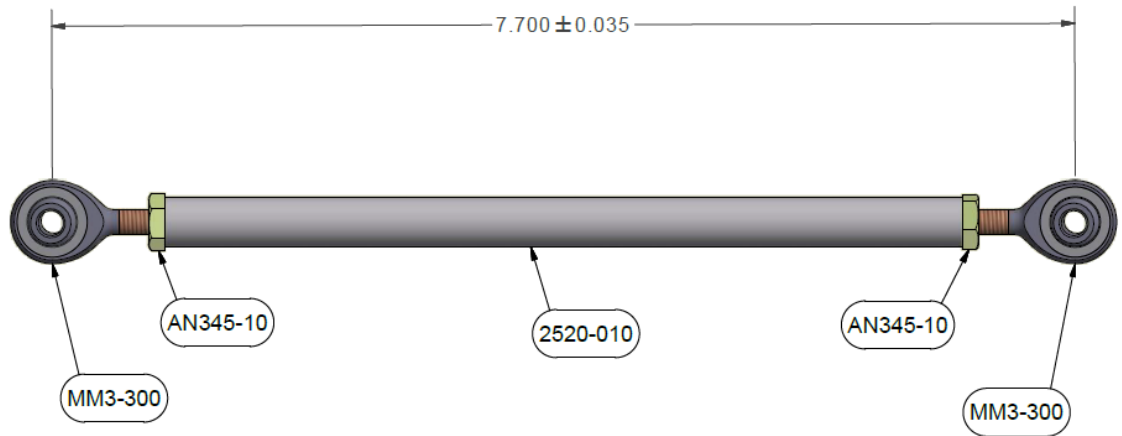

Figure 2-22
- 1.35. Assemble the pitch pushrod assembly as shown in Figure 2-22. Apply blue threadlocker (Loctite 242 or equivalent) to rod ends and torque